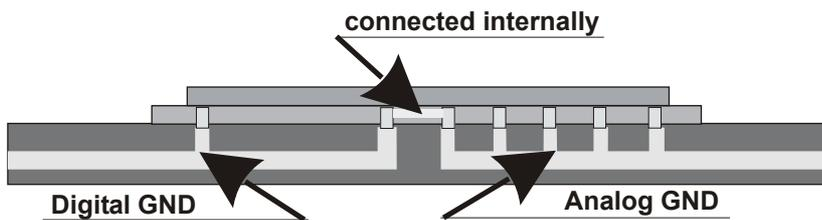

Figure 11: Ground plane of the JP7-T family GPS receiver
- ◆ the planes are connected inside the receiver (see Figure 11).
The JP7-T family GPS receiver is designed to be functional by using either a passive patch antenna or an antenna connector with standard RF cables. In order to make a RF connection properly, the user has to connect the antenna points or the pins of the connector to the RF pin (pin 17) and RF grounds (GND's of RF part), respectively (see Figure 11)